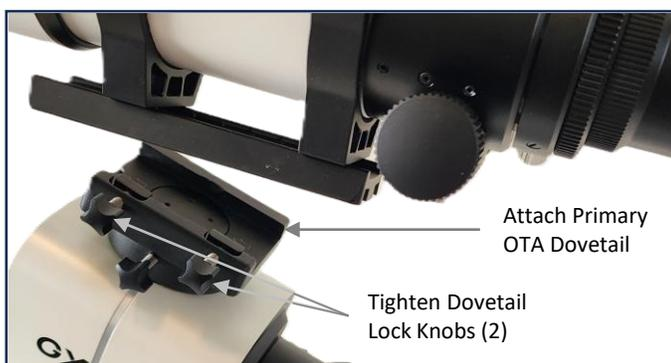

Fig. 2.20
- 1. Attach Primary OTA:** Loosen the two dovetail locking knobs. Slide the primary OTA dovetail plate into the dovetail receiver in the direction indicated. Tighten the dovetail locking knobs to a firm feel. See Fig. 2.20.